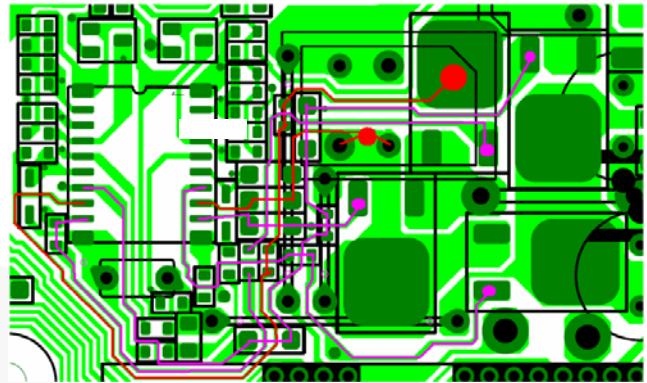

Figure 4. DHx &amp; DLx Connection
- Figure 4 also shows the position of SG1577A and power-MOSFETs relatively. Do not place SG1577A in the center of the power-MOSFETs even though this simplifies the trace wiring.